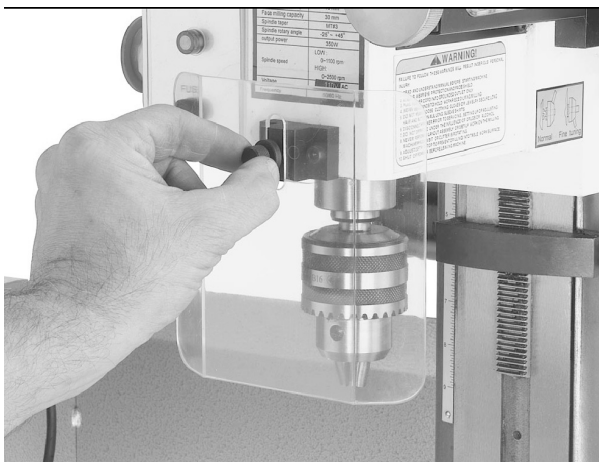

Figure 3. Attaching eyeshield to the mill / drill head.
1. Attach the eyeshield to the mill / drill with the knurled knob as shown in **Figure 3**. Note the eyeshield provides the best coverage when it is positioned down as it can go.